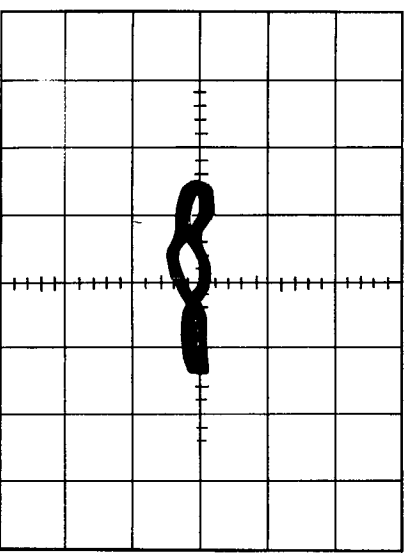

Figure 8. Residual Output of Analyzer, Rated Distortion at 20,000 Hz
7. Set the frequency controls of the generator and the analyzer to 20,000 Hz and repeat steps 4, 5, and 6. See Figure 8.